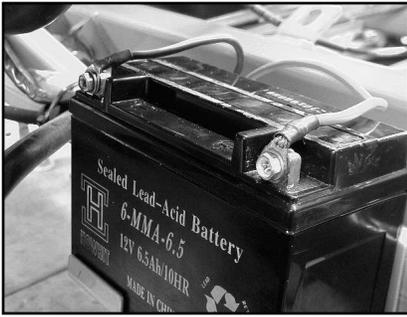

FIGURE 30
- Then attach the black negative wire to the black negative terminal on the battery. (see figure 30)